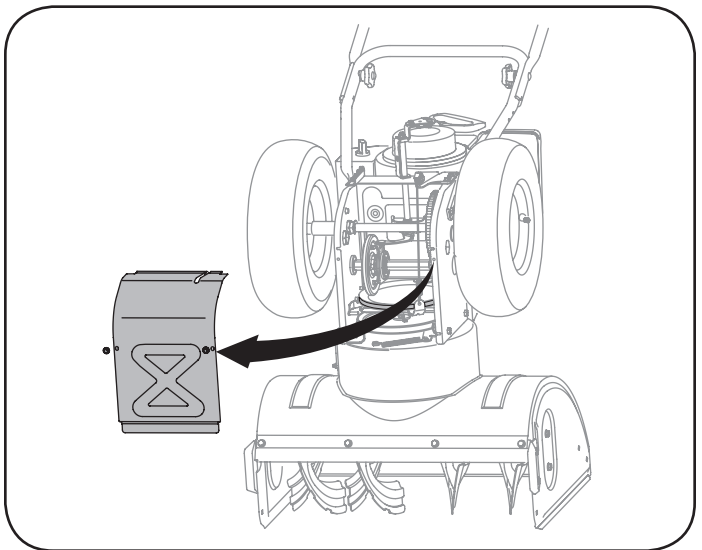

Figure 32
5. Remove the frame cover from the underside of the snow thrower by removing the self-tapping screws which secure it. See Figure 32.
5. Remove the frame cover from the underside of the snow thrower by removing the self-tapping screws which secure it. Refer to Figure 32.